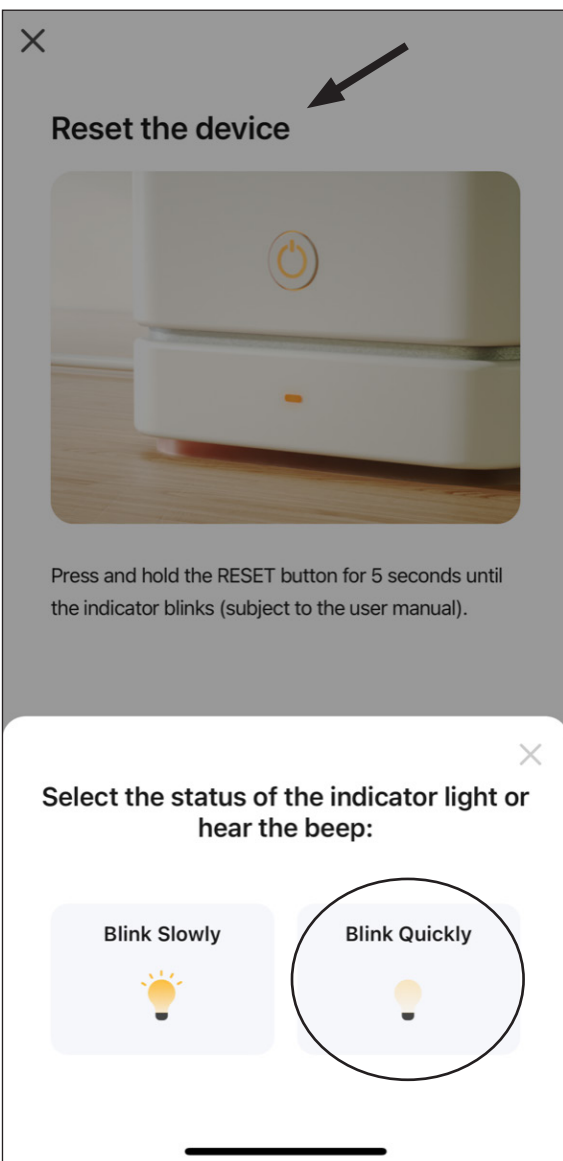
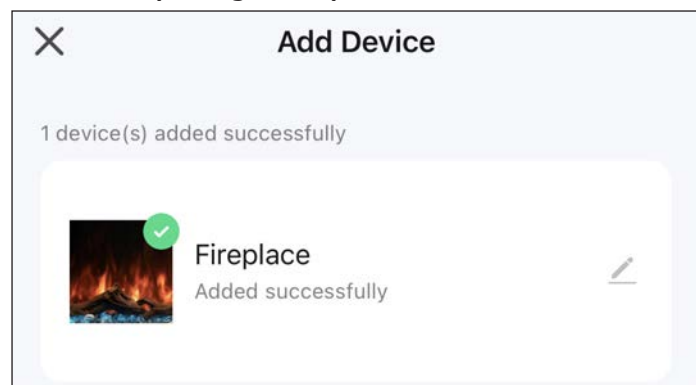

Figure 33: Fireplace Pairing
Figure 34: Fireplace Successfully Paired
7. With the fireplace now in pairing mode select the **Blink Quickly** option on the **Reset the Device** screen in the app (see figure 33). The app will begin pairing to the fireplace on a timing screen and automatically finish once pairing is successful (see figure 34).